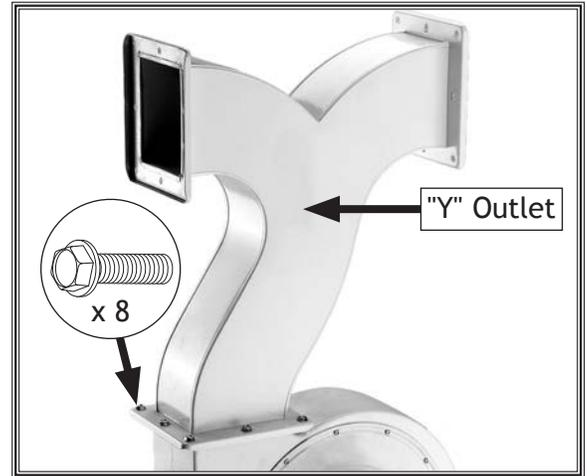

Figure 9. "Y" outlet installed.
- Secure the metal "Y" outlet to the impeller outlet with (8) $\frac{5}{16}$ "-18 x $\frac{1}{2}$ " flange bolts, as shown in **Figure 9**.